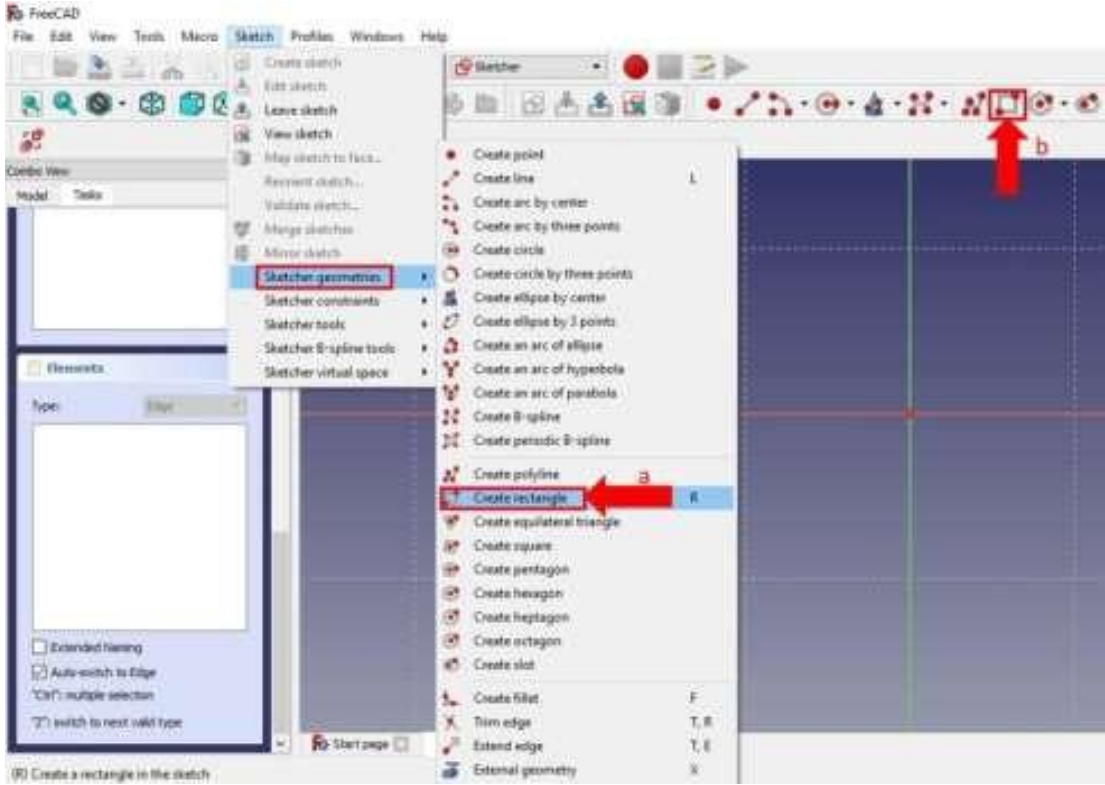

Figure 17 – Create a Rectangle
5. Select the **Create a Rectangle** sketch tool. When you hover your cursor over a coordinate system, you can see the current coordinates right next to your cursor. Click on the **IV quadrant** of the coordinate system (lower right quadrant) at point **40.0, -40.0** (Figure 17, 18).